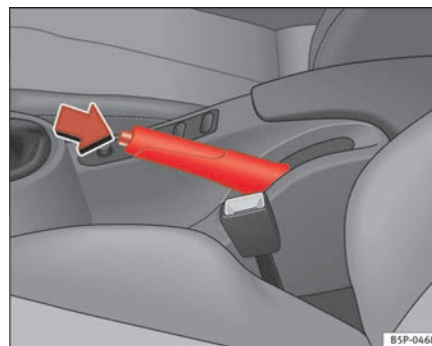

Fig. 147 Handbrake between the front seats
- Pull the handbrake lever up firmly ⇒ page 176, fig. 147.
- Pull the lever up slightly and press the release knob in the direction of the arrow ⇒ page 176, fig. 147 and guide the handbrake lever down fully ⇒ .